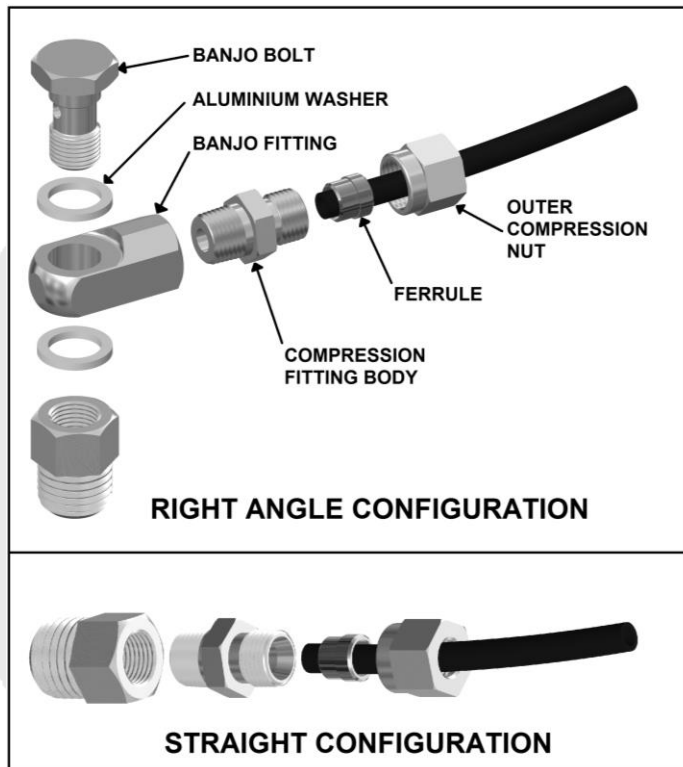

Figure 5.
- ☐ Assemble an aluminium washer onto the banjo bolt and insert through the banjo fitting. Assemble second aluminium washer and tighten into bulkhead fitting using a 14mm [9/16"] spanner. (Fig.5.)
- ☐ Insert the outer compression nut and ferrule over the air line. Ferrule should be orientated as per Fig.5.
NOTE : When right angle routing of the tube is not required, screw the compression fitting body straight into the bulkhead fitting body (Fig.5.).